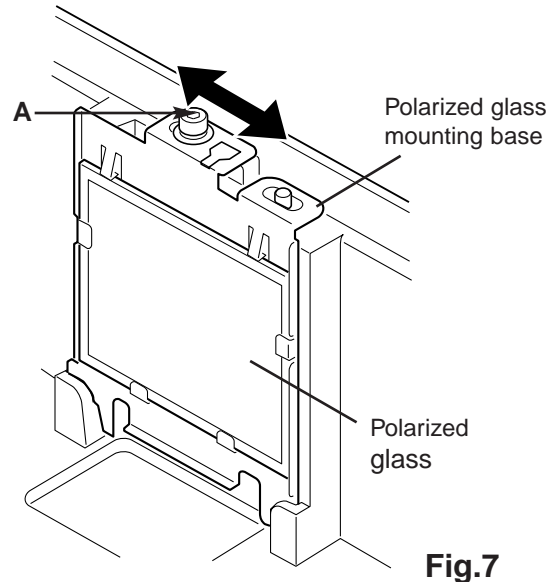

Fig.7
2. Loosen a screw "A" (**Fig.7/8**) on the polarized glass mounting base which you intend to adjust.
3. Turn the polarized glass mounting base as shown in **Fig.7** to obtain the darkest brightness on the screen.